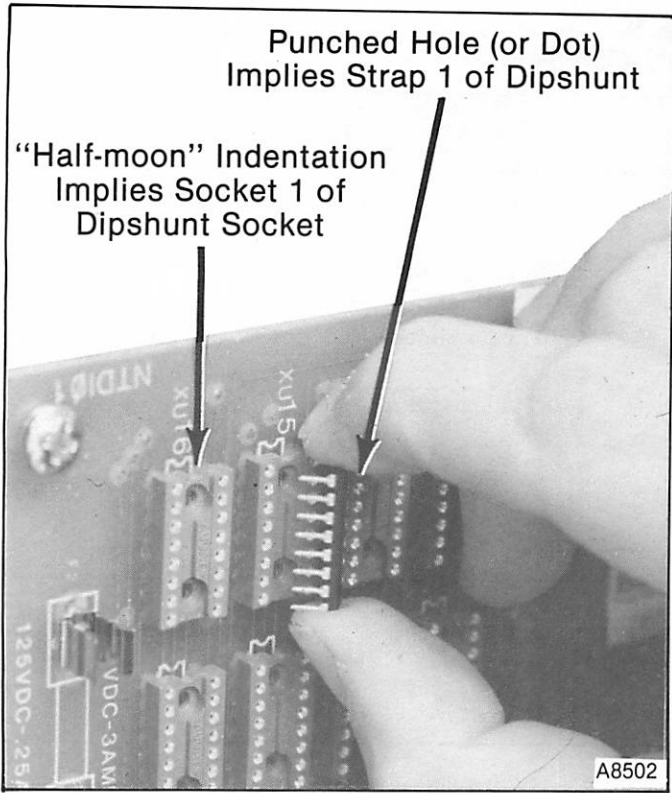

FIGURE 19 — Inserting Dipshunts.
- c. Mount dipshunts into dipshunt sockets. (See Figure 19.)